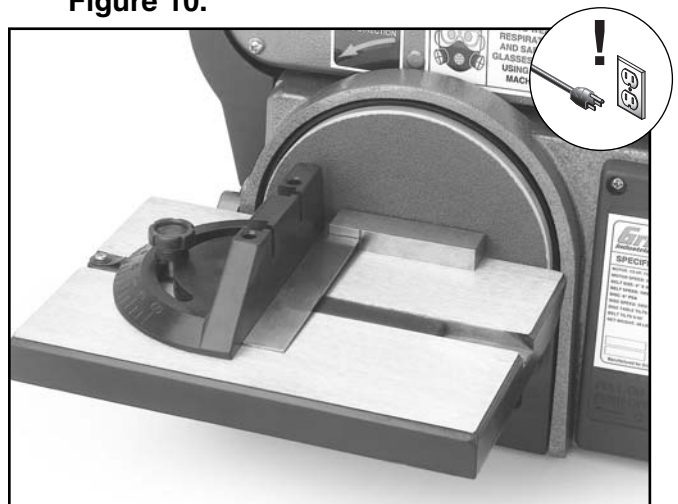

Figure 10. Squaring the miter gauge.
2. Use a machinist square with one edge against the face of the miter gauge and the other against the disc face as shown in **Figure 10**.